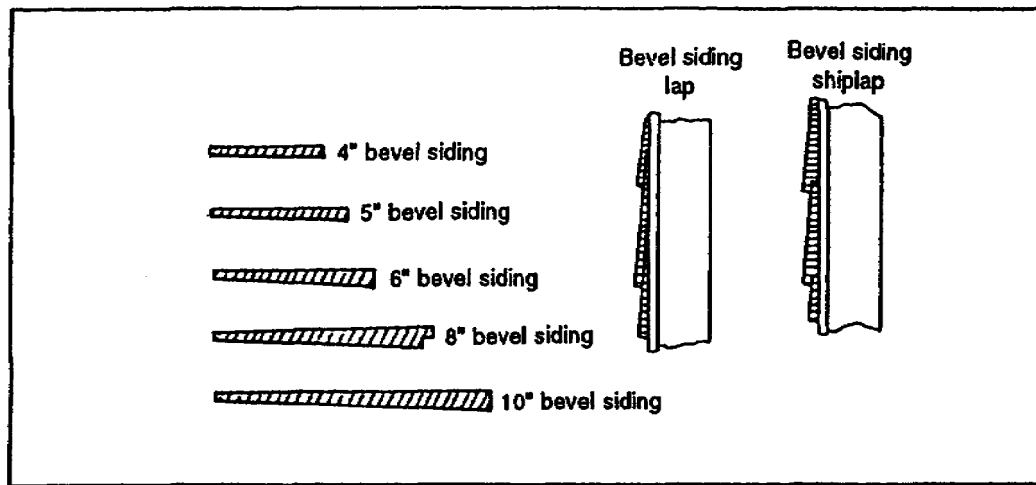

Figure 2-27. Beveled siding
(1) Beveled Siding. Beveled siding is made with beveled boards, thin at the top edge and thick at the butt (see Figure 2-27). It is the most common form of wood siding. It comes in 1 inch for narrow widths and 2 inches and over for wide types. It is nailed to solid sheathing, over which building paper has been attached.